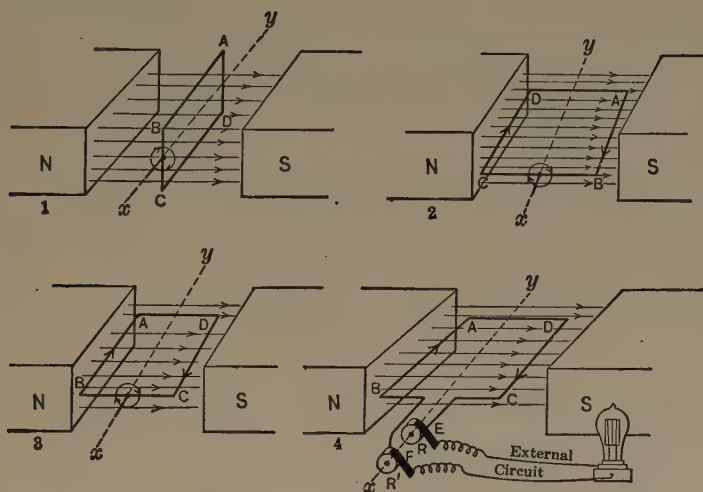

FIG. 195. — Principle of current production in a generator.
**How electric current is produced by a generator.** Let us try to understand what happens when a single loop of wire is rotated between the poles of a magnet, for if we understand this we shall have a mental picture of what goes on in the large generators in which hundreds of loops of wire are duplicating the action of this single loop. Suppose the loop of wire in Fig. 195, diagram 1, to be rotated in a clockwise direction of the axis *xy*. As the side *AB* moves down across the lines of magnetic force, an e.m.f. is induced in it in the direction shown in diagram 2. At the same time, an e.m.f. is produced in the side *CD* in the
**How current is taken from the generator.** In order to make use of the e.m.f. generated in the rotating coils, or **armature**, of a generator, there must be some way of connecting the coils to an outside circuit. The ends of each loop of wire may be joined to separate metal rings. These rings rotate with the loop. Carbon or metal **brushes** rest on the rings and are connected with the wires of the external circuit (Part 4, Fig. 195). Since one brush is always in contact with the same end of the wire loop, the current taken off will be of the same character as the e.m.f. generated in the loop, namely, an **alternating current**. Collecting rings are always used on alternating-current generators.